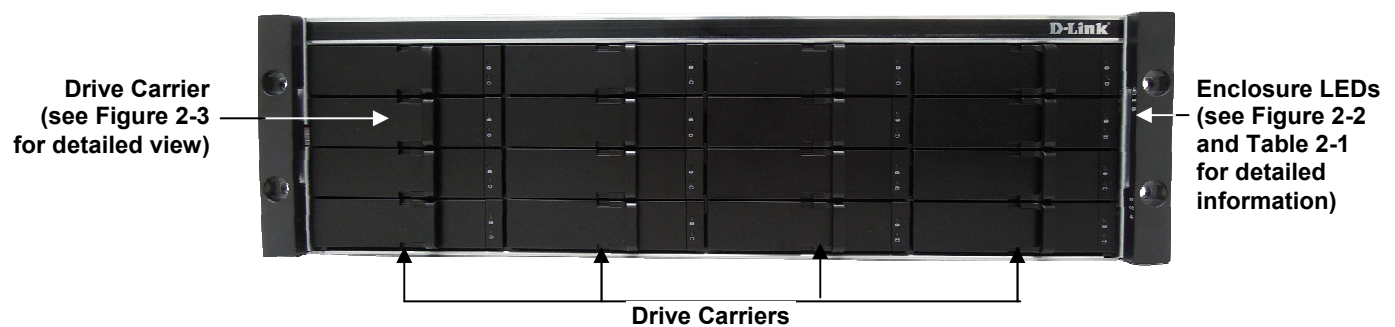

Figure 2-1. Front View of the DSN-4X00 Primary Array
The front of the DSN-4X00 primary array enclosure has the following components (see Figure 2-1):
- **Enclosure Status LEDs** - the enclosure LEDs at the right side of the front panel provide status information about the DSN-4X00i primary array enclosure, as shown in Figure 2-1. For a description of these LEDs, see Table 2-1.